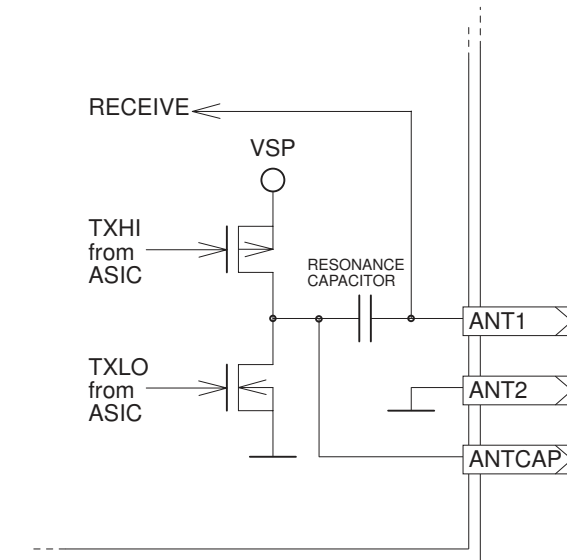

Figure 1-4. Antenna Circuit Block Diagram
- SYNC (1)** Output for wired synchronization. This output is at GND level until the Micro-reader starts its read cycle, at which time it goes to VSL until the complete reading, programming or locking cycle is finished.
- RDEN- (2)** Input for wired synchronization. Taking this pin to VSL acts as a hold-off for the Micro-reader's output stage preventing it from transmitting until the input returns to GND. The Micro-reader only samples this input at the start of its own reading, programming or locking cycle, this means that if the input goes to VSL after a cycle is started, the cycle is not interrupted. RDEN- is a high impedance input and must be tied to GND via a suitable resistor (27 k Ω) when it is not being used.
- RESET- (4)** Taking this pin to GND holds the Micro-reader in reset. If the reset pin is not used it can be left disconnected as it is internally pulled up. Minimum pulse duration to perform a reset is 1 ms. After a reset the processor takes between 28 ms and 132 ms (typically 72 ms) before it can receive new instructions via the serial communications interface.
- RXD (5)** Input configured to receive serial data commands at 9600 Baud, 1 start bit, 8 data bits, no parity and 1 stop bit.
- TXD (6)** Output configured to transmit serial data at 9600 Baud, 1 start bit, 8 data bits, no parity and 1 stop bit.
- ANT1 (16)** Antenna pin for the connection of 47 μ H, low Q antennas.
- ANTCAP (17)** It is possible to use antennas of lower inductance by connecting a suitable capacitor between ANT1 and ANTCAP. This additional capacitor (ceramic, 100 VDC) will be in parallel with the 30 nF resonance capacitor on board the Micro-reader (see Figure 1-4 and Appendix C).
- ANT2 (19)** Antenna pin (GND) for the connection of 47 μ H, low Q antennas.
- GNDP (21)** Pin 21 is ground for the output stage.
- VSP (22)** Pin 22 is for connecting the positive supply voltage (5 V) for the output stage.
- VSL (24)** Pin 24 is for connecting the positive supply voltage (5 V) for the logic part.
- CRDM (26)** Supplying pin 26 with a logic high signal causes the Micro-reader to run in a continuous charge-only read mode (see Section 1.2.5 for more information).
- WLSC (27)** Pin 27 enables or disables wireless synchronization. To enable the wireless synchronization, pin 27 must be taken to VSL. When wireless synchronization is enabled, the Micro-reader will try to synchronize its transmit signals with any other readers in range. To disable wireless synchronization pin 27 must be taken to GND. Pin 27 is a high impedance input and must be tied to either VSL or GND via a suitable resistor (27 k Ω).
- OKT (29) This output is set to logic high for approx. 60 ms if a valid transponder was read. It can be connected to an LED externally to indicate the result of the read cycle.
- STAT(30) Pin 30 is set to logic low when the RF-transmitter is activated. Supplying an external LED with this signal makes the status of the Micro-reader visible.